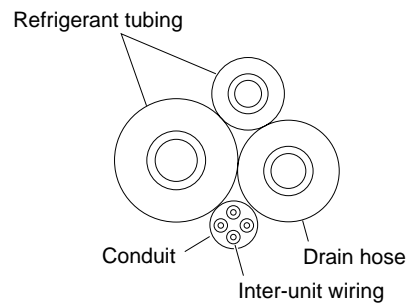

Fig. 27
- (5) Assemble the refrigerant tubing, drain hose, and inter-unit wiring as shown in Fig. 27.